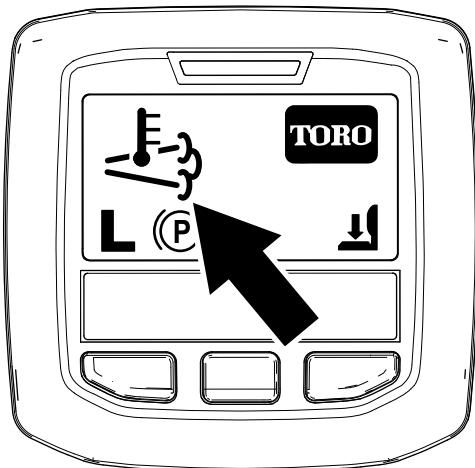

Figure 74
- The high exhaust-temperature icon  displays in the InfoCenter (Figure 74).